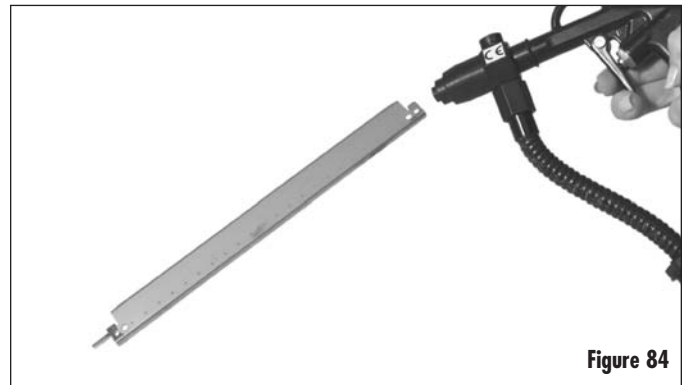

Figure 84
1. Using ionized dry, filtered, compressed air clean any loose toner from the Doctor Blade (Figure 84).